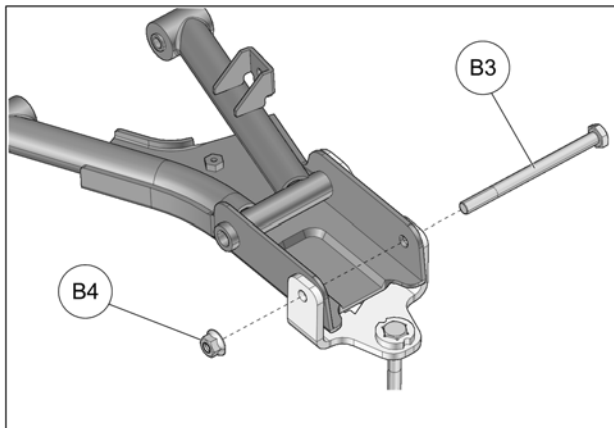

Fig. 9
- Insert new M10x130mm assembly bolt (**B3**) through bracket, a-arm and hub. Secure with provided nut (**B4**). Tighten assembly to 50 N•m of torque [37 lb•ft]. See Fig. 9